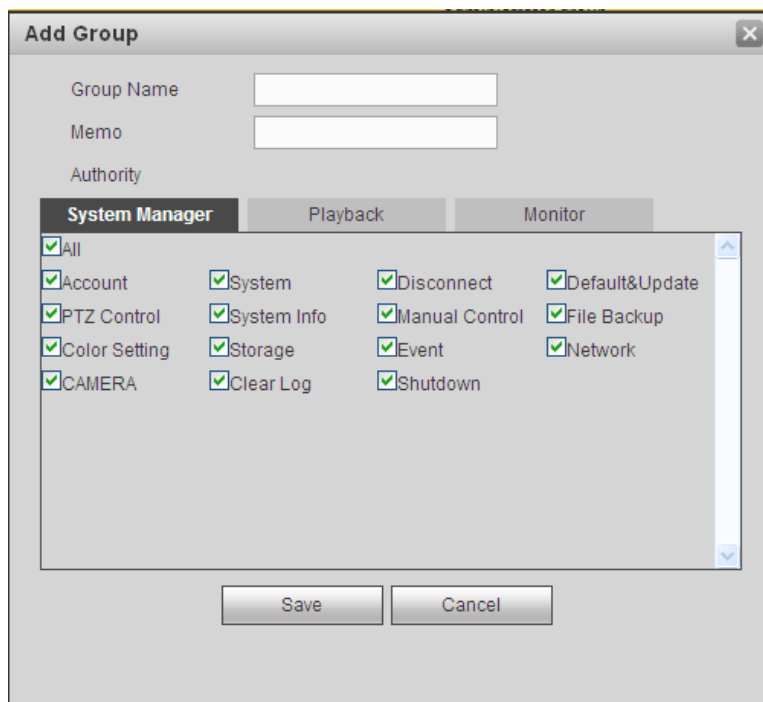

Figure 5-86
**Add group:** It is to add group and set its corresponding rights. See Figure 5-86. Please input the group name and then check the box to select the corresponding rights. It